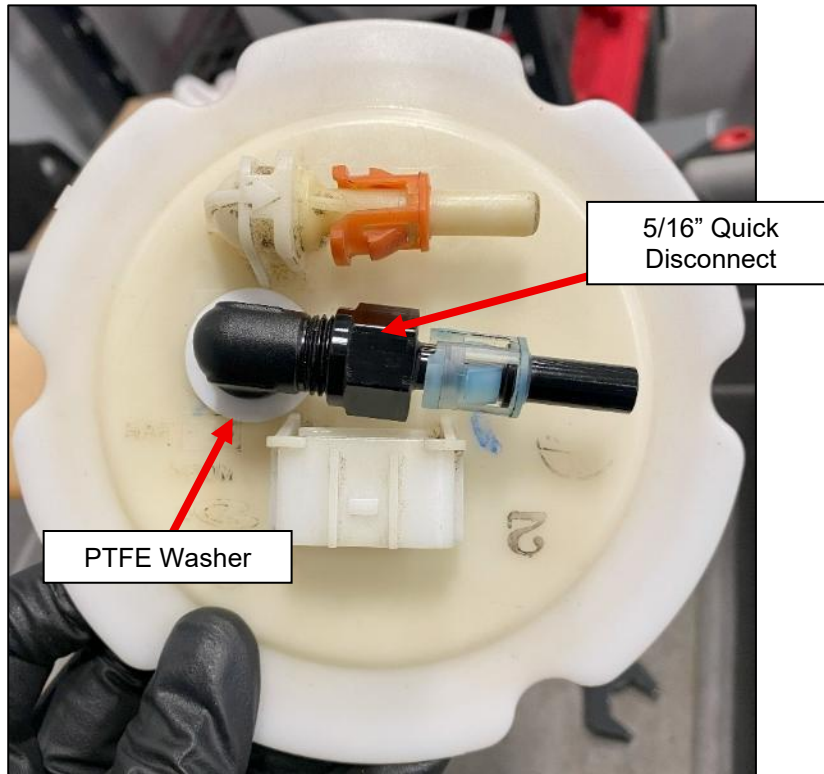

Figure 26
19. Locate the Bulkhead Fitting, 5/16" Quick Disconnect, (2) two PTFE Bulkhead Washers and (1) one 6AN Aluminum Bulkhead Nut. Place (1) one Washer on the Bulkhead Fitting and install it into the Basket Assembly. It should be oriented so it faces the same way as the OE Fuel Port. *Figure 26.*